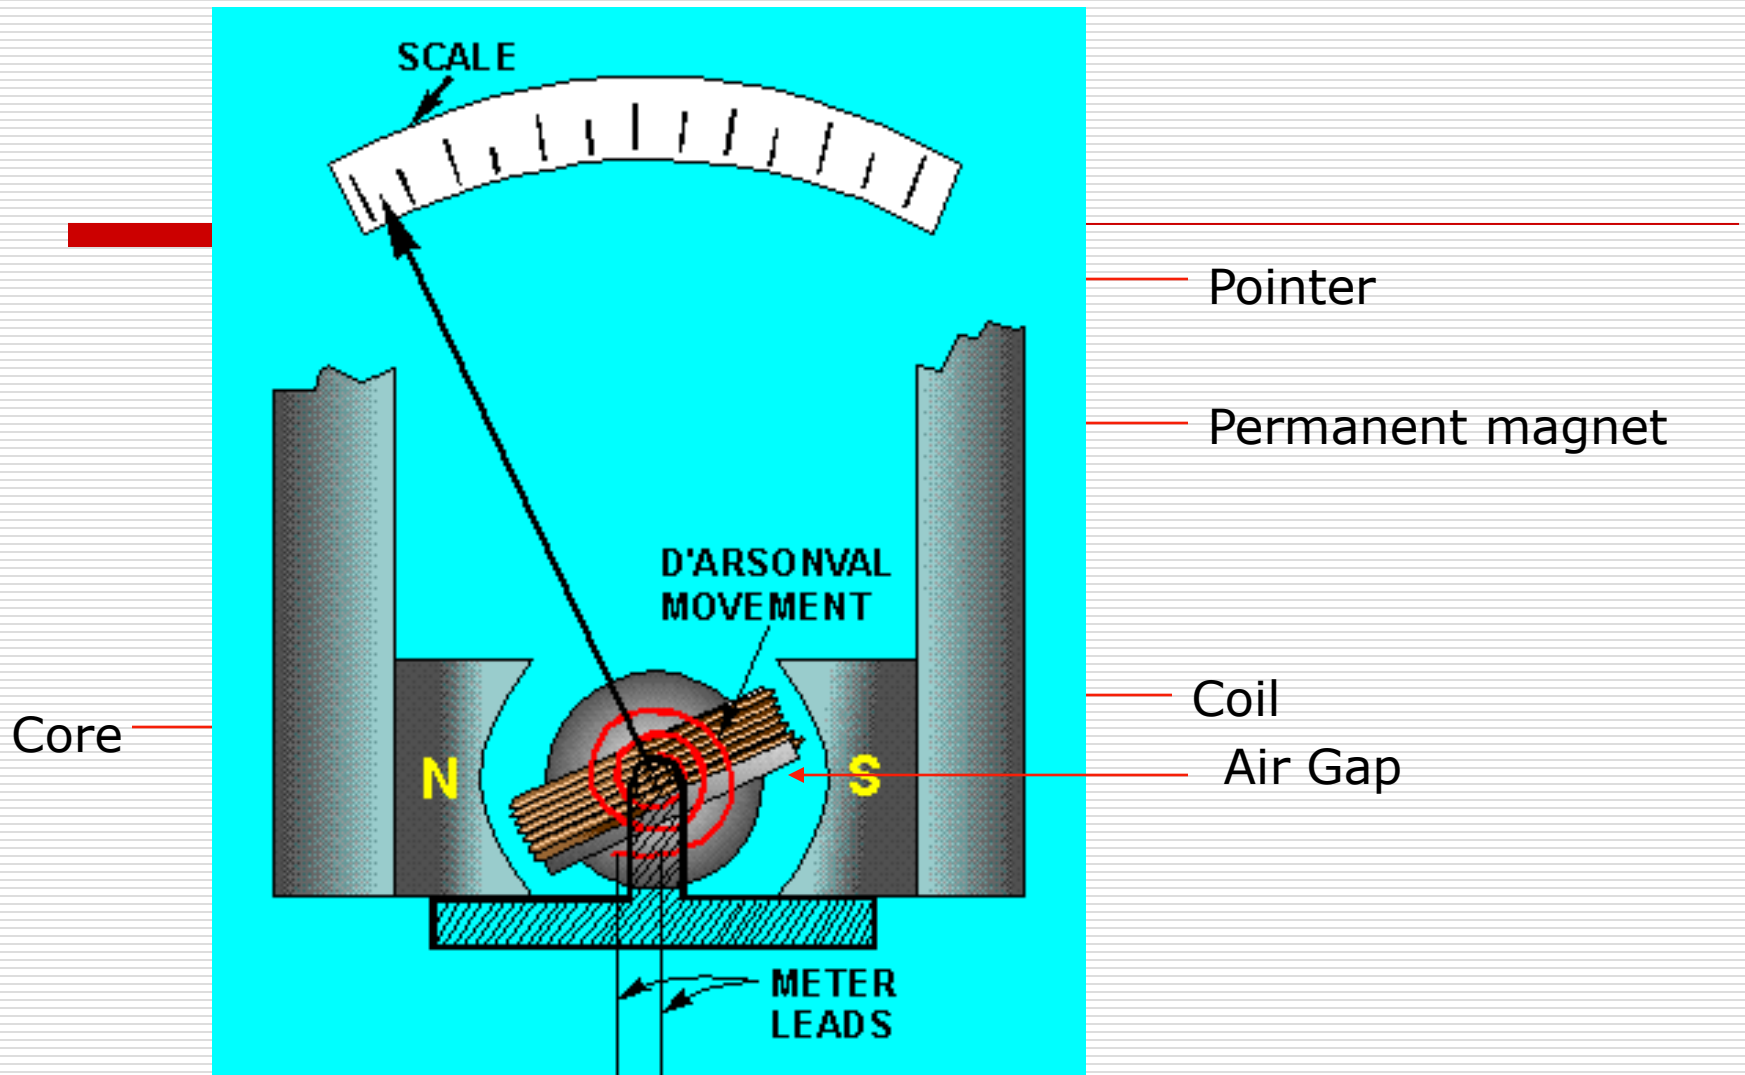

Figure 2.1: Modern D'Arsonval Movement
- ❑ Basic construction of modern PMMC can be seen in Figure 2.1.